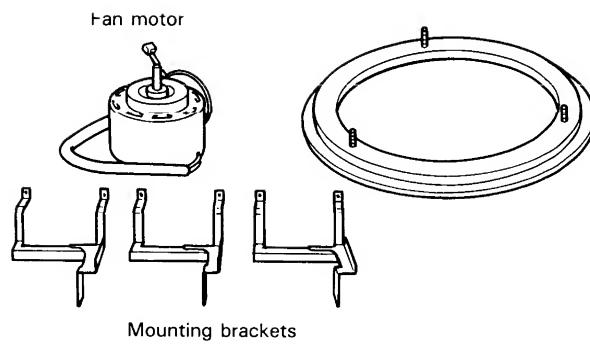

Fig. 6
- (5) Unfasten the screws and nuts to disassemble the fan mounting brackets as illustrated to remove the fan motor. (See Figure 6.)